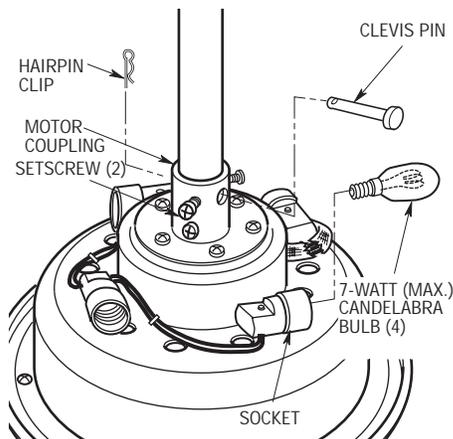

Figure 7
- 14. Unscrew the two upper setscrews (Figure 7) until they clear the inside of the motor coupling. Then separate, untwist and unkink the three 80" motor leads. Route the motor lead wires through the downrod. Align the clevis pin holes in the downrod with the holes in the motor coupling. Install the clevis pin and secure with the hairpin clip (Figure 7). The clevis pin must go through the holes in the motor coupling and the holes in the downrod. Be sure to push the straight leg of the hairpin clip through the hole near the end of the clevis pin until the curved portion of the hairpin clip snaps around the clevis pin.
It is critical that the clevis pin in the motor coupling is properly installed and the setscrews securely tightened. Failure to verify that the pin and setscrews are properly installed (as shown in Figure 7) could result in the fan falling.
- 15. Tighten the two upper setscrews (Figure 7) securely while pulling up on the downrod.
- 16. Install four 7-watt (maximum) candelabra bulbs (not supplied) in the sockets on top of the motor housing (Figure 7).